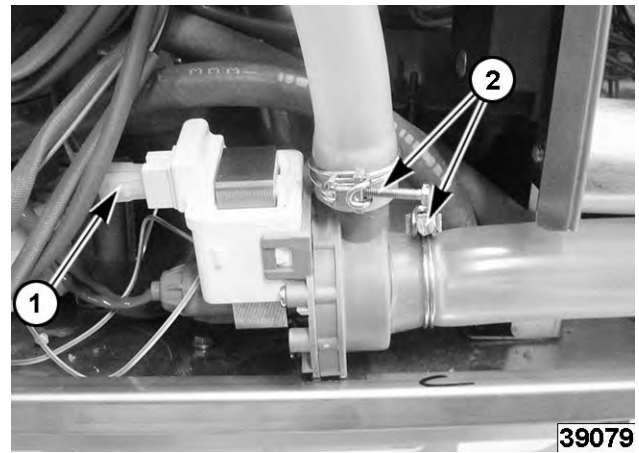

Fig. 58
- Note and disconnect wiring (1, Fig. 58).
- Disconnect tubing (2, Fig. 58).